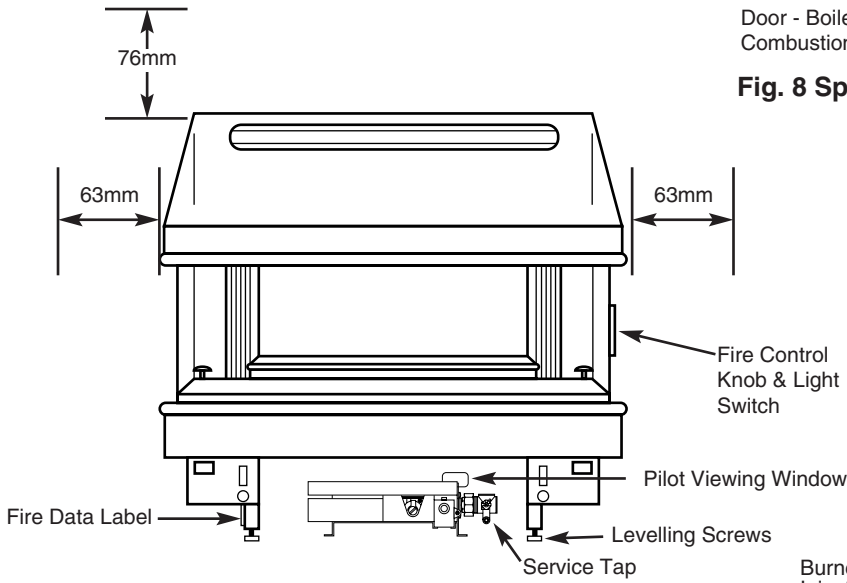

Fig. 9 Outer Case & Clearances
12. Check the operation of the light effect by operating the switch adjacent to the control tap (Fig.9).
(see page 7, Fig.9